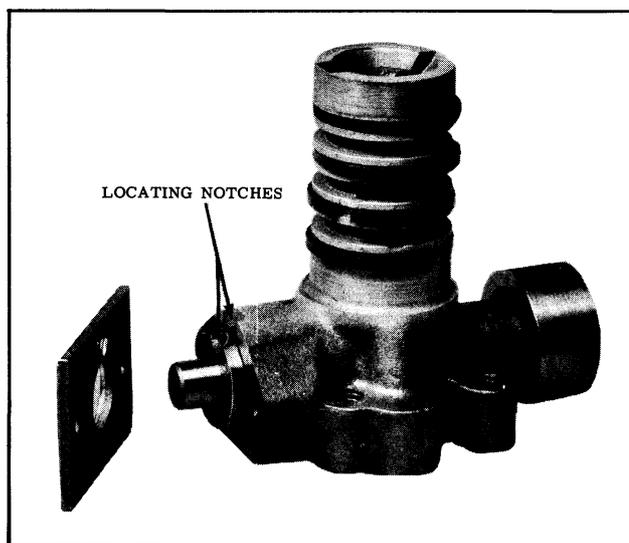

Fig. 3-112 G-2 Valve Installation
1. Install G-2 governor valve into the sleeve, then install the assembly into the governor with locating notches aligned. (See Fig. 3-112)